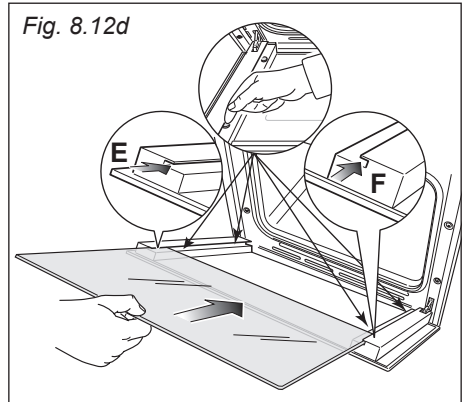
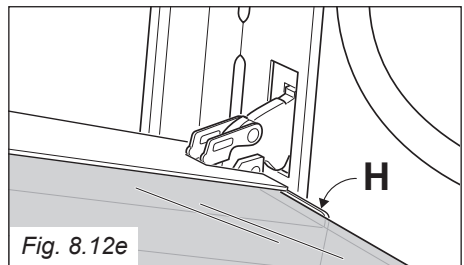

Fig. 8.12d
Fig. 8.12e
IMPORTANT: It is advisable, while refitting the glass, to keep pressed in position the four rubber pads "D", by a finger, to avoid breakage or slippage of the rubber pads themselves (fig. 8.12d).
- Insert the pane in the left "E" and right "F" slide guides (fig. 8.12d), and gently slide it to the retainers "H" (fig. 8.12e).